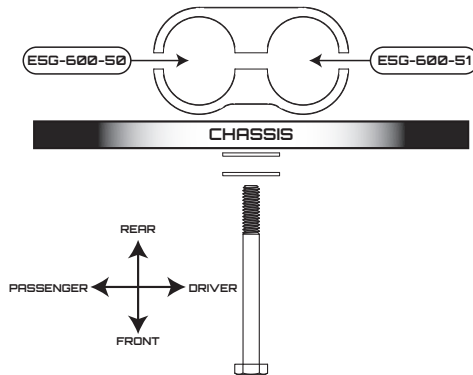
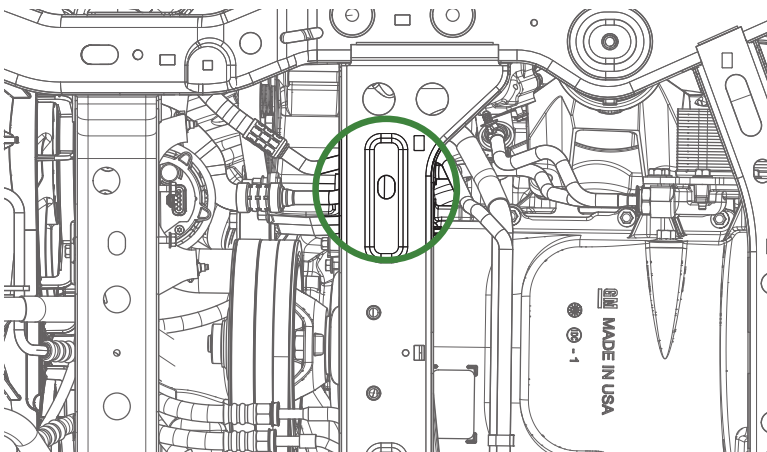

Figure 15 - E5G-600-62 Hardware Pack Arrangement
Figure 16 - Chassis Location for Rear Hose Clamp
23. Configure HSC-1052, HWA-1003 and CP-16 from the E5G-600-62 Hardware Kit as shown in Figure 15, then secure the hoses to the chassis location circled **green** on Figure 16.